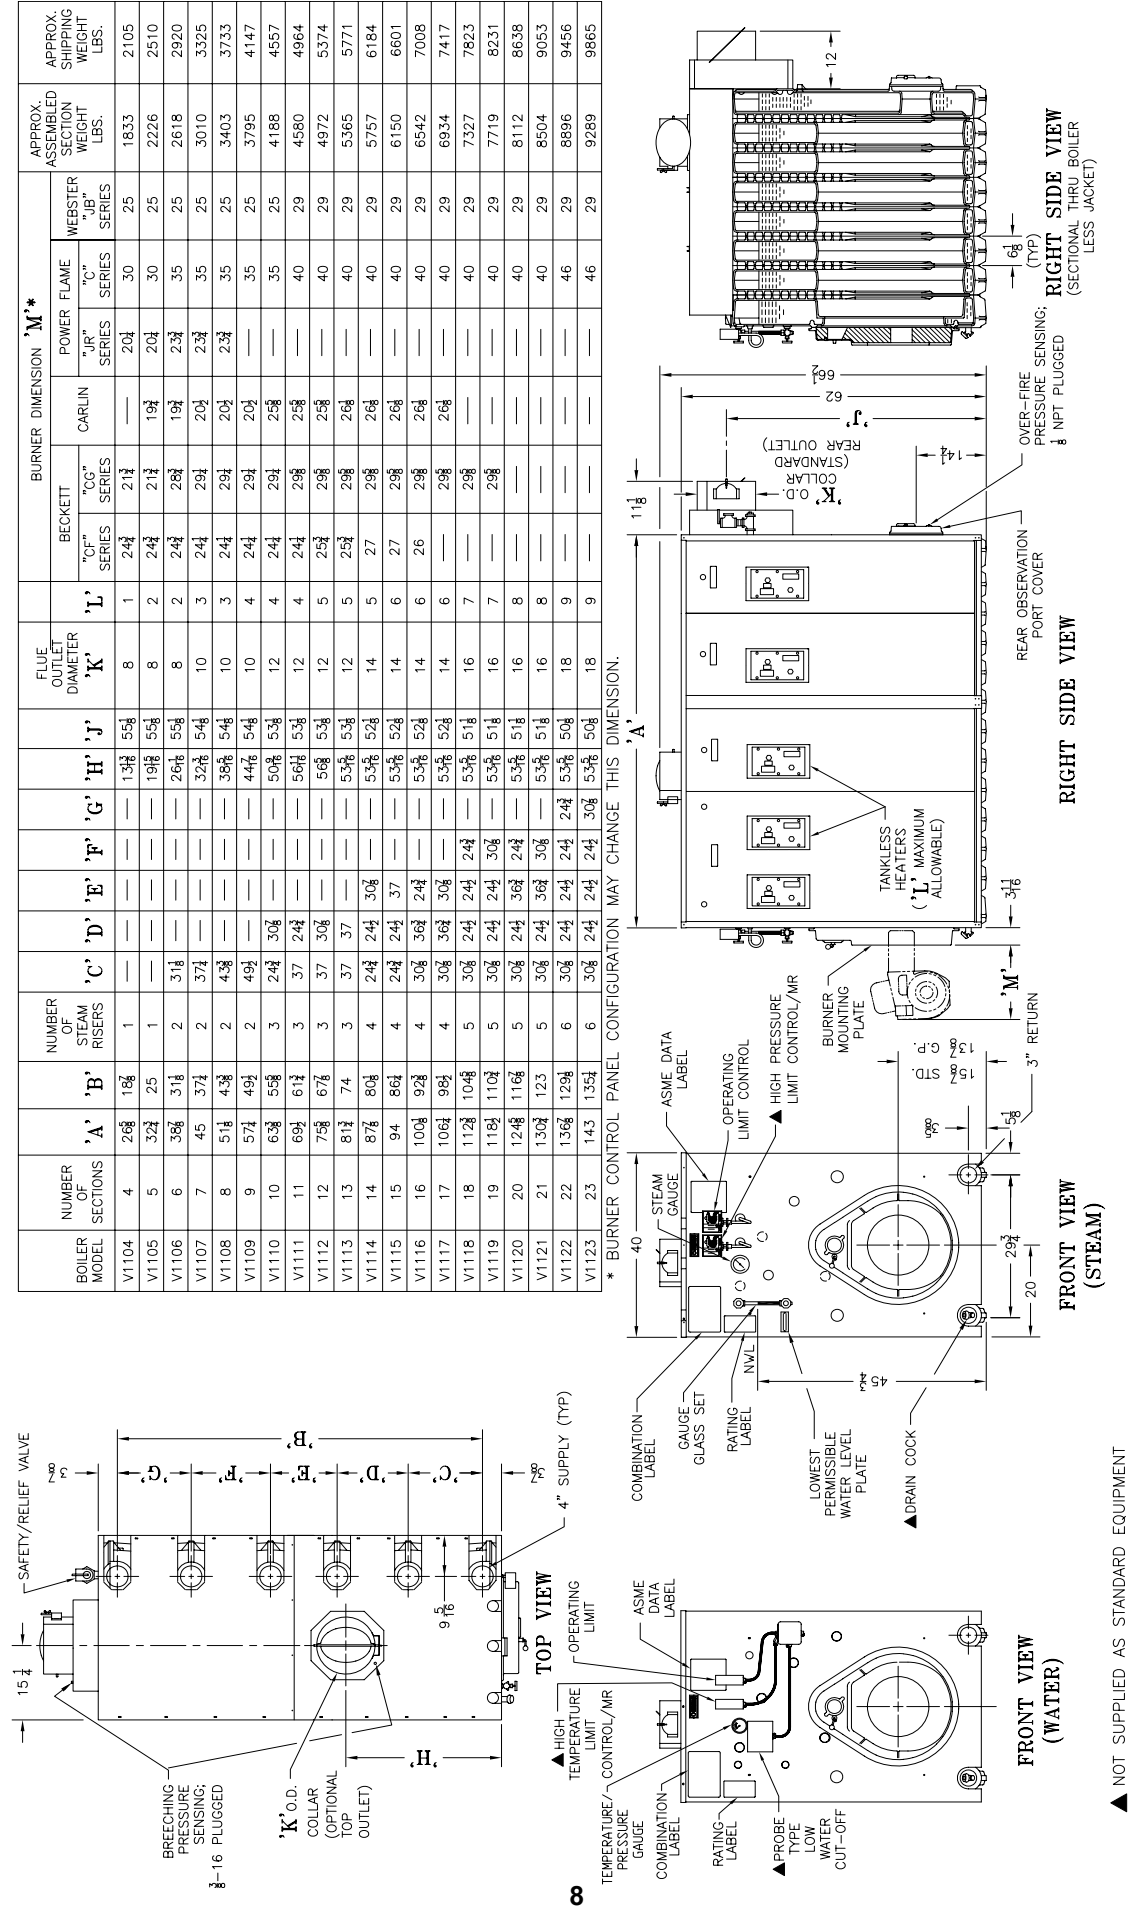

Figure 1: Dimensional Information
- Locate the unit in the boiler room so as to provide ease of venting and adequate clearance for maintenance, serviceability, and installation of piping. Refer to Figure 1 for boiler dimensional data.